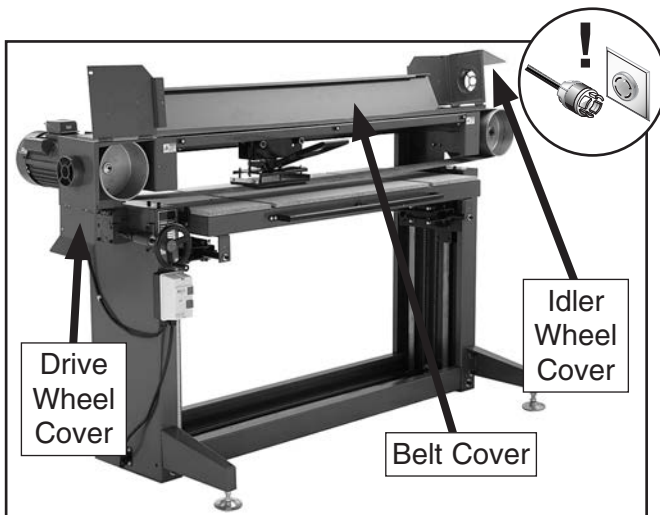

Figure 35. Belt covers open.
3. Open the belt cover, drive wheel cover, and idler wheel cover (**Figure 35**).